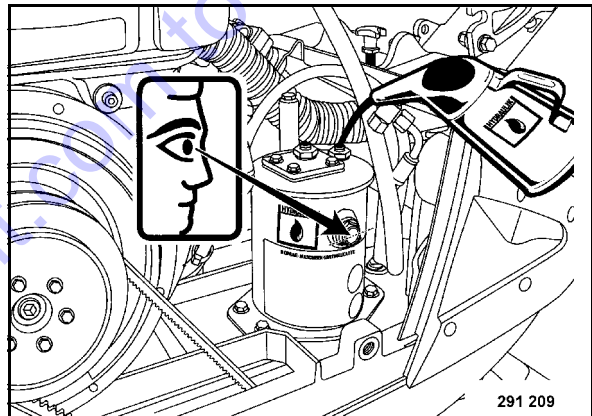

Fig. 79
- Fill in new hydraulic oil (Fig. 79).